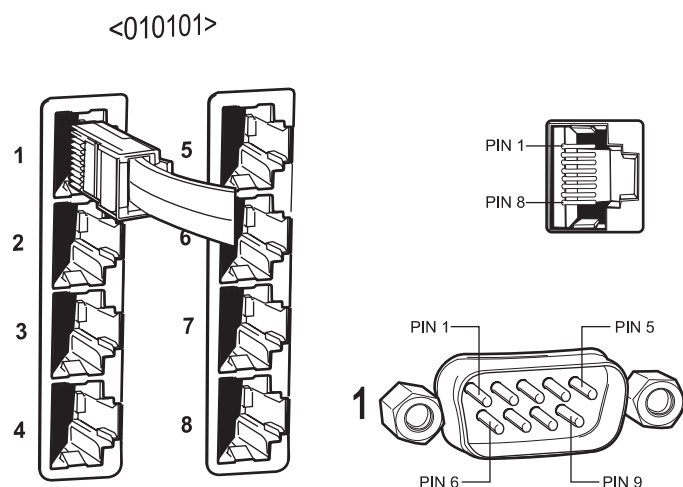

Figure 12. Communication Port Inputs
3. Set the keyboard DIP switches for the desired address for the local keyboard (refer to Figure 12 and Table D).